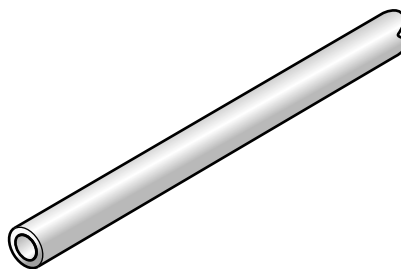

Fig. 6
- (a) Fig. 6 shows part of a length of brass tube from which the five supports will be cut.